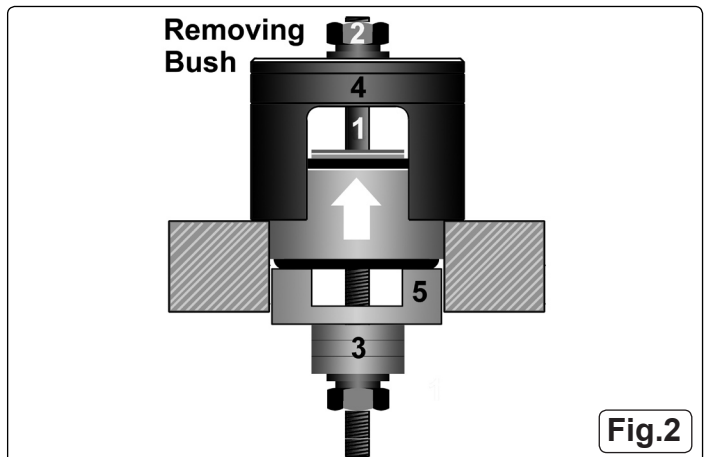

Fig.2
- 3.4** To remove the old bush assemble the tool onto the bush and sub-frame as shown in Fig.2. Ensure that the force screw 1 is well lubricated prior to assembly. Hold the flange nut 2 with a 24mm ring spanner. Using a ratchet wrench with a 24mm deep socket turn the nut on the force nut assembly 3 clockwise to drive the bush out of its housing. The bush will extract easier if penetrating oil has been applied to the bush housing prior to removal.